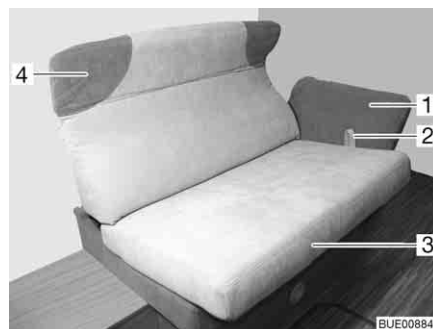

Fig. 101 Adjusting the divan
- Pull up the loop (Fig. 101,2) and carefully pull the seat (Fig. 101,3) along the rails as far as it will go towards the middle.
- Hold the neck cushion (Fig. 101,4) in both hands and carefully move it up or down to the right position.
- Hold the armrest (Fig. 101,1) in both hands and carefully move it up or down to the right position.